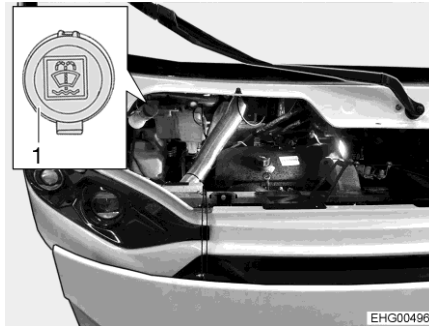

Fig. 13 Filler neck (windscreen washer fluid)
- Open the lid (Fig. 13,1) on the filler neck of the washer fluid container.